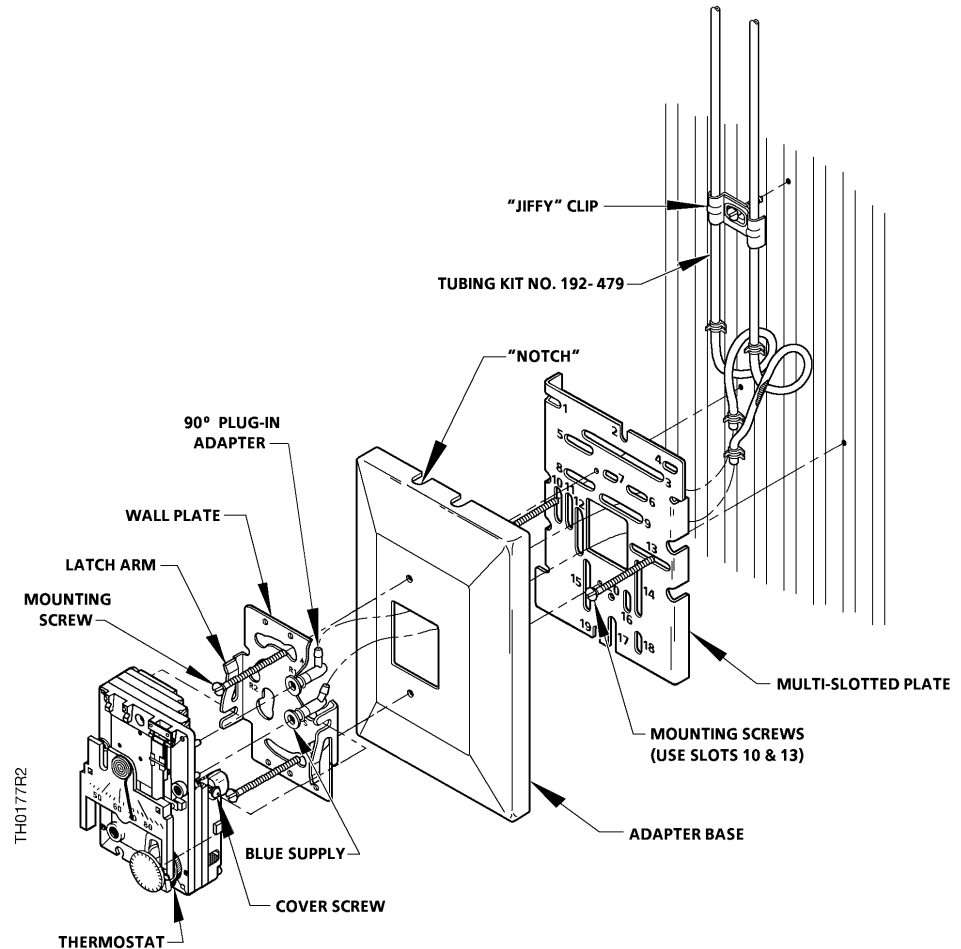

Figure 7. Exposed Piping Installation Using Kits No. 192-479 and 192-483.
- For exposed piping installations, use Kit No. 192-479 and adapter Kit No. 192-483. See Figure 7. A typical installation procedure to mount the thermostat to the surface of the wall consists of the following steps: